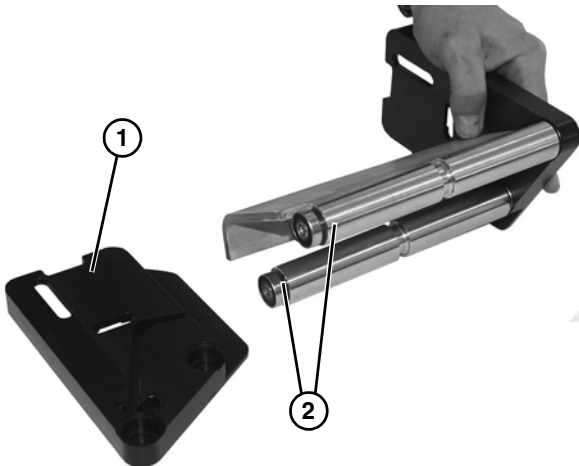

Figure 50
4. Slide off end plate (Figure 50, item 1).
5. Remove idler roller bearing assemblies (Figure 50, item 2) from each end plate.